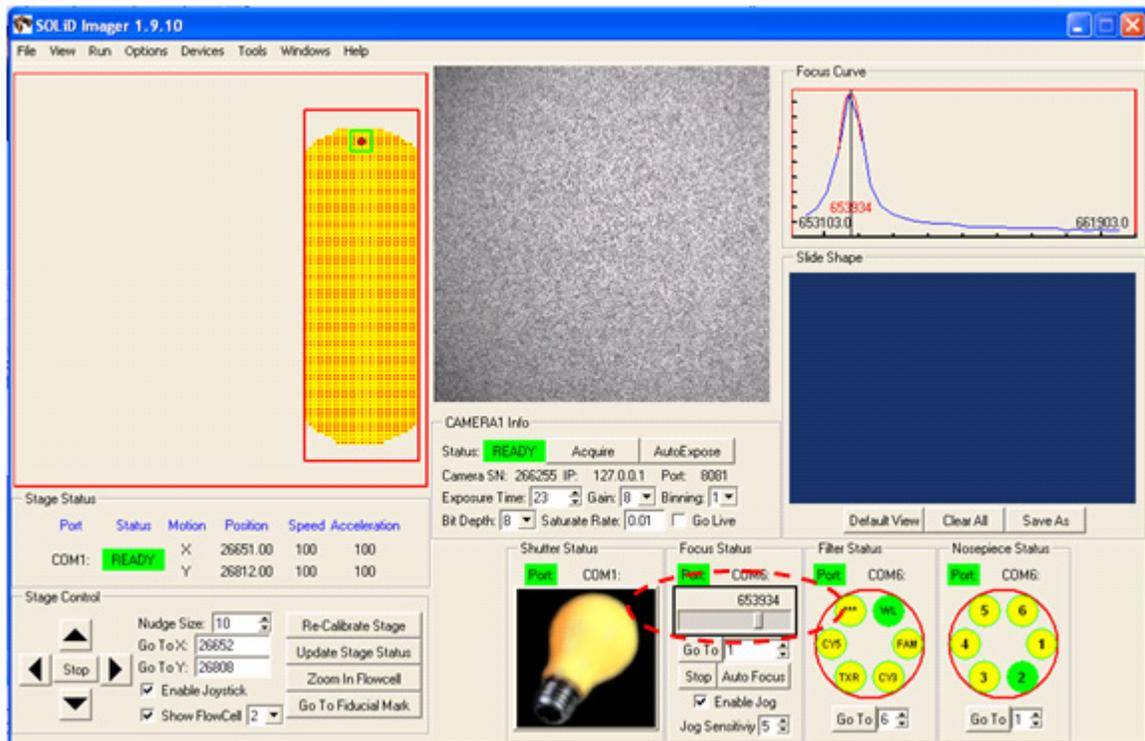

Figure 76 Use the black box to change the focal distance.
6. Click the focus slider bar in the Imager window. A black box appears (see Figure 76 on page 112).